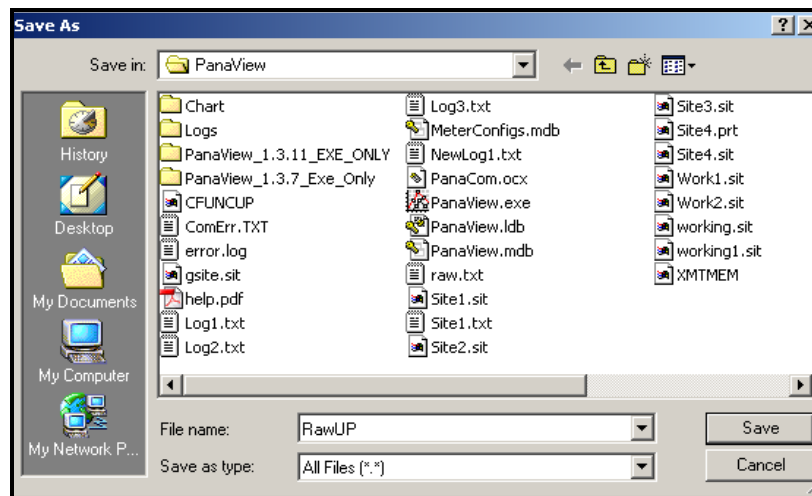

Figure 14: Saving Signal Array Data to File
- If you double-click on *To File*, another window opens similar to Figure 14. Enter a file name and click [Save]. PanaView stores the array data in a Windows file, and closes the *Calibration/Test* window.
- If you double-click on *To File*, the *Save As* window (similar to Figure 14 on page 58) opens. Enter a file name and click [Save]. PanaView stores the array data in a Windows file, and closes the *Calibration/Test* window.